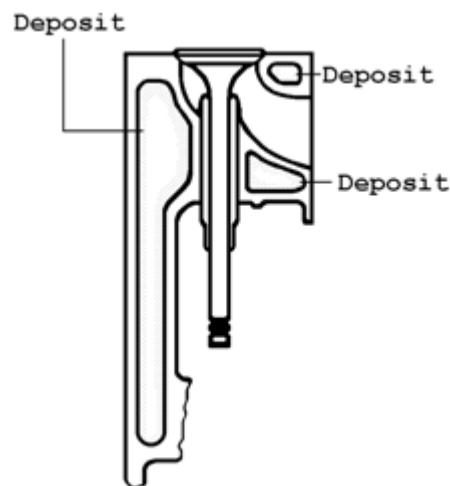

Fig.25
- Any defects in the cooling system which reduce its ability to remove heat from the seats, may result in over-heated seats. The most serious defect of all is scale deposit in the water passages surrounding the valve seats (see Fig. 25). The scale insulates the valve seats from the water and thus prevents proper cooling of the seats. The seat temperature rises and excessive distortion and leakage make occur.